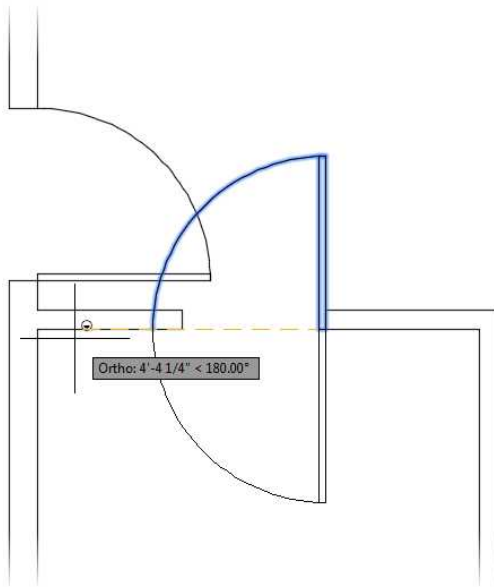

FIGURE 4.54: Using the Shift key to enable Ortho mode temporarily to pick the mirror line
8. With the Shift key pressed, select any point to the left, as shown in Figure 4.54.
Activating the temporary Ortho mode override might take a moment. You'll know the override is enabled when the small shield icon appears next to your cursor. Because Ortho mode locks your cursor to rotation increments of 90° , you don't have to be precise when selecting the second point. You can see that the point selected in Figure 4.54 is not perpendicular; however, Ortho mode ensures that the mirror line is drawn along the horizontal bathroom wall.